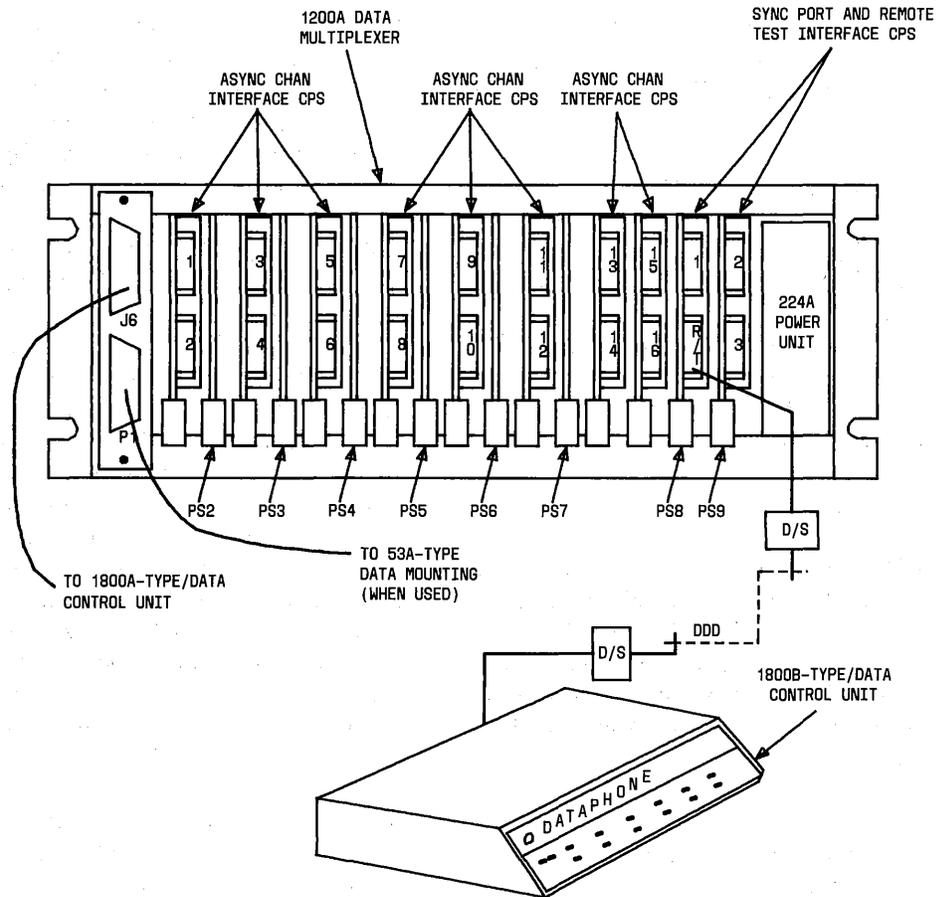
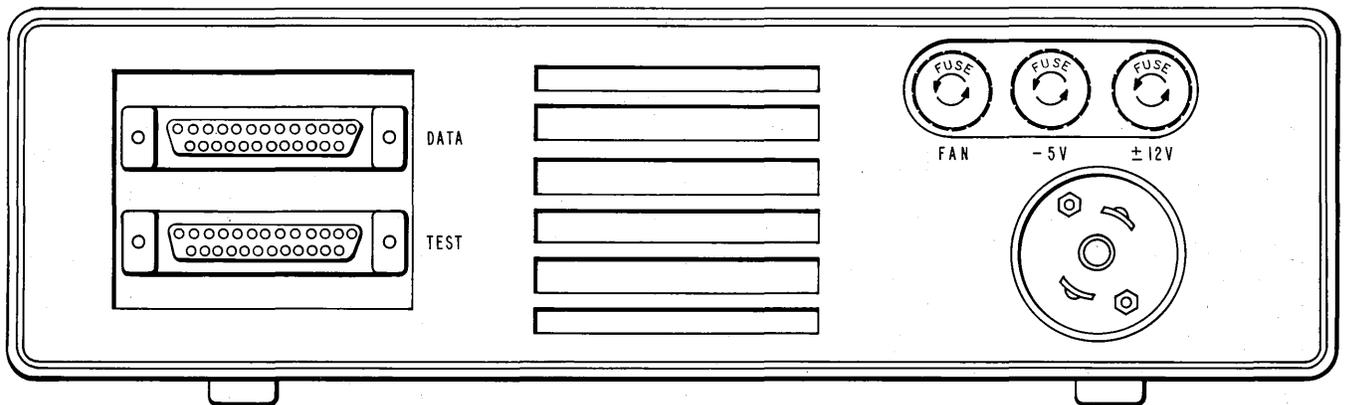

Fig. 3—1200A Type DM and 1800B-LI Data Control Unit
Fig. 4—1800B-LI Data Control Unit (RCU) Rear Panel
1.04 The RCU may be desk-top or shelf mounted. Connection to a 1200A DM is made via the DDD network utilizing data sets (DSs) 212A-type (Fig. 3). The RCU is connected to a DS 212A-type using an M25J cord which is supplied with the RCU. The 1800B RCU can also be used to link external test sets to the multiplexer. An additional 25 pin Electronic Industries Association (EIA) connector on the rear panel of the RCU (Fig. 4) provides a connection for the external test equipment.
3.09 In the MT mode, the RCU provides monitoring and testing capabilities that are primarily involved with testing and adjusting terminal equipment. The MT mode allows test equipment connected to the RCU test connector (Fig. 4) to perform in-service monitoring of data on an individual asynchronous channel, to perform out-of-service